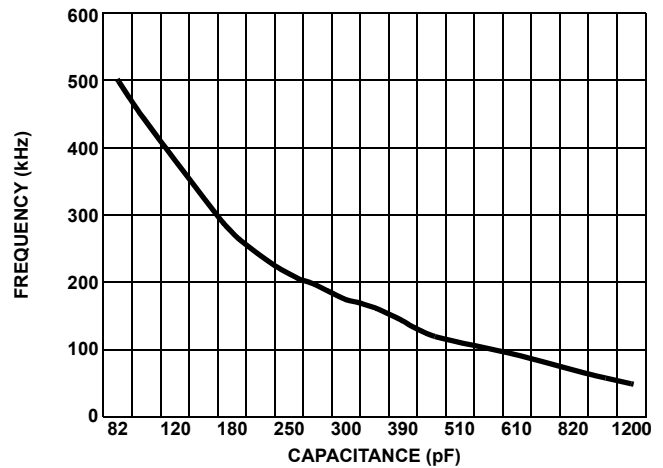

FIGURE 4. CAPACITANCE vs FREQUENCY
**CT** - This is the oscillator timing pin. The free-running frequency can be set by connecting a timing capacitor to this pin. The oscillator produces a sawtooth waveform with a programmable frequency range of 100kHz to 1.2MHz. Figure 4 may be used as a guideline in selecting the capacitor value required for a given frequency.
The ISL6401 has an internal sawtooth oscillator with a programmable frequency range of 100kHz to 1MHz, which can be programmed with a capacitor on the CT pin. (Please refer to Figure 4 for the capacitance required for a given frequency.) With a maximum 50% duty cycle operation, the output switching frequency is half the oscillator frequency.